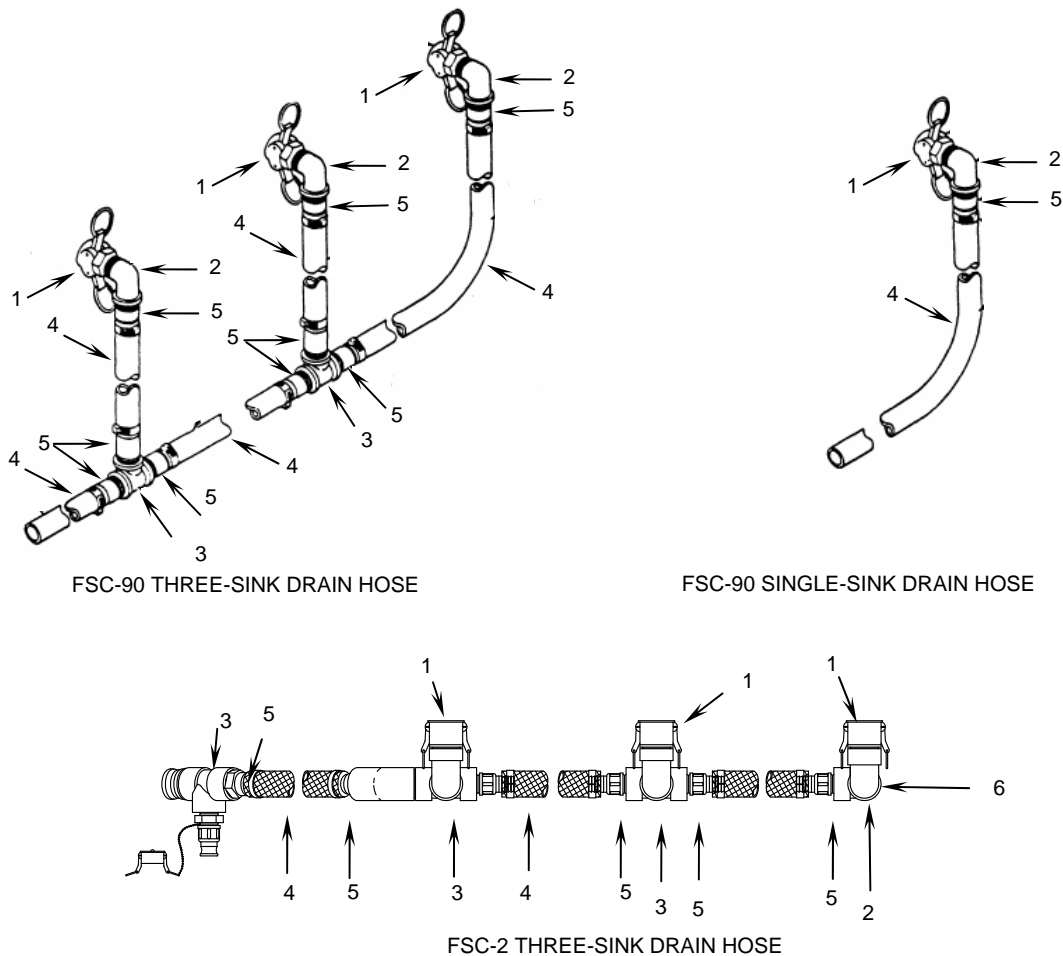

Figure 2. Replacing Sink Drain Hose Couplings, Elbows, Adapters or Tees.
1. Unscrew coupling (**Figure 2, Item 1**) from elbow (**Figure 2, Item 2**) or tee (**Figure 2, Item 3**).
2. Remove hoses (**Figure 2, Item 4**) per steps 1, 2, and 3 in the previous procedure, Remove and replace sink drain hoses.
3. Unscrew adapter (**Figure 2, Item 5**) or pipe nipple (**Figure 2, Item 6**) from elbow (**Figure 2, Item 2**) or tee (**Figure 2, Item 3**).
6. Thread adapters (**Figure 2, Item 5**) or pipe nipple (**Figure 2, Item 6**) into tee (**Figure 2, Item 3**) and elbow (**Figure 2, Item 2**).
7. Thread coupling (**Figure 2, Item 1**) onto elbow (**Figure 2, Item 2**).